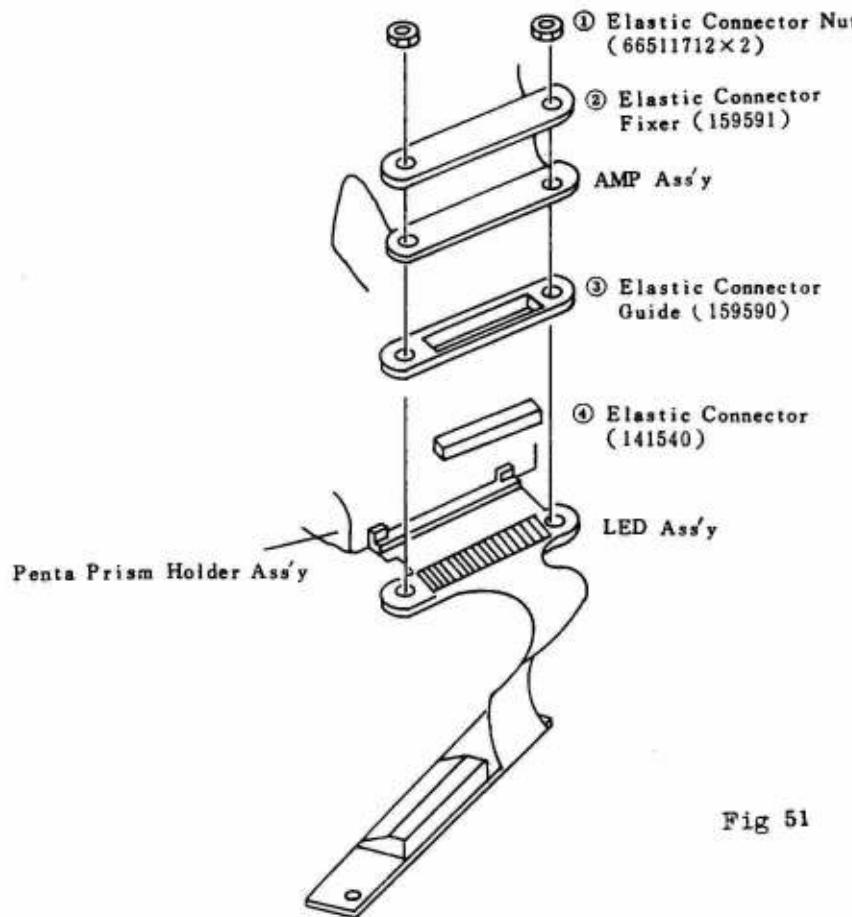

Fig 51
- i) Remove the respective parts ①~④ shown in (Fig 51) in numerical order.